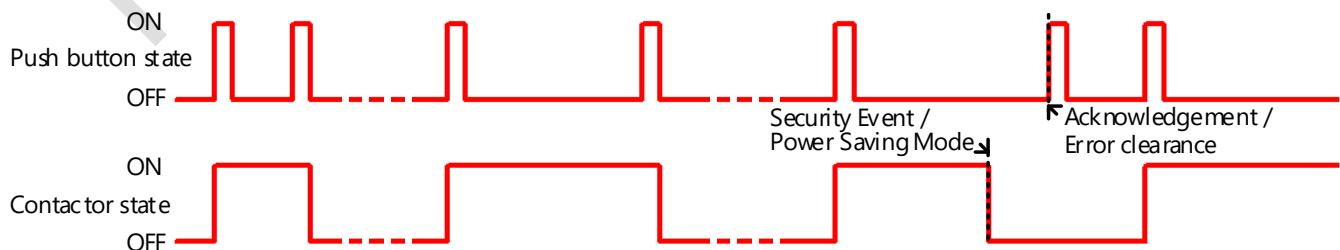

Figure 46: example of a push button use for controlling the contactor states
- In pulsed mode, as shown on Figure 46, a first pulse acknowledge and clear the error, a second pulse restart the contactors.